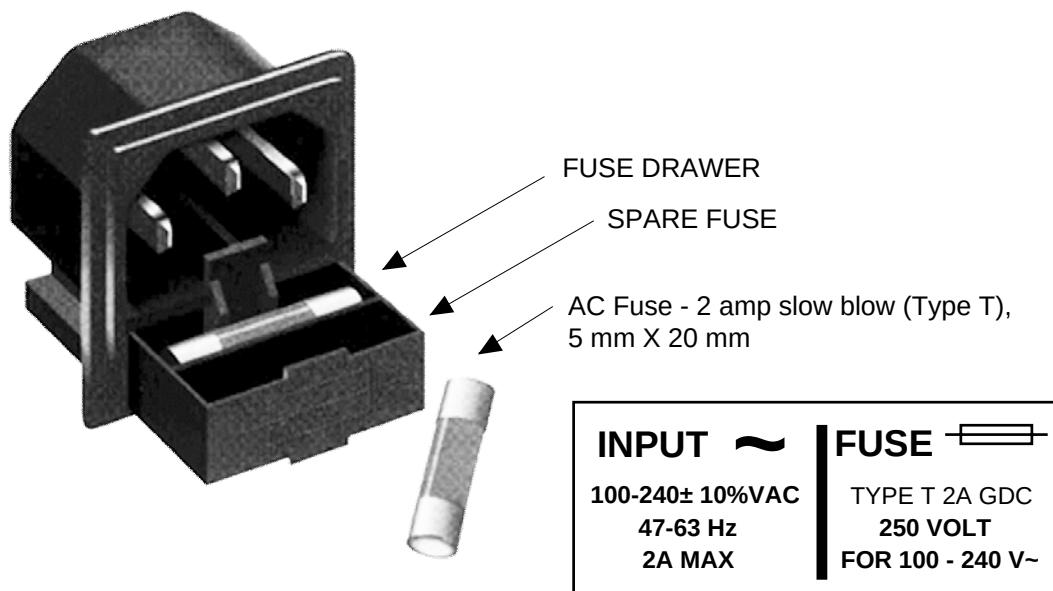

FIGURE 2.4 Fuse Location and Spare Fuse
10. AC Fuses - The fuse is a 5 mm x 20 mm, 5 amp slow-blow (Type T) and is inserted in the far slot in the drawer below the AC input as shown in Figure 2.4. There is a spare fuse in the near slot.